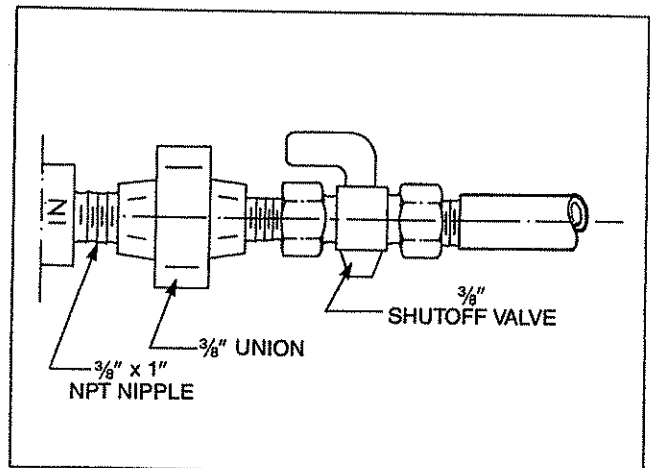
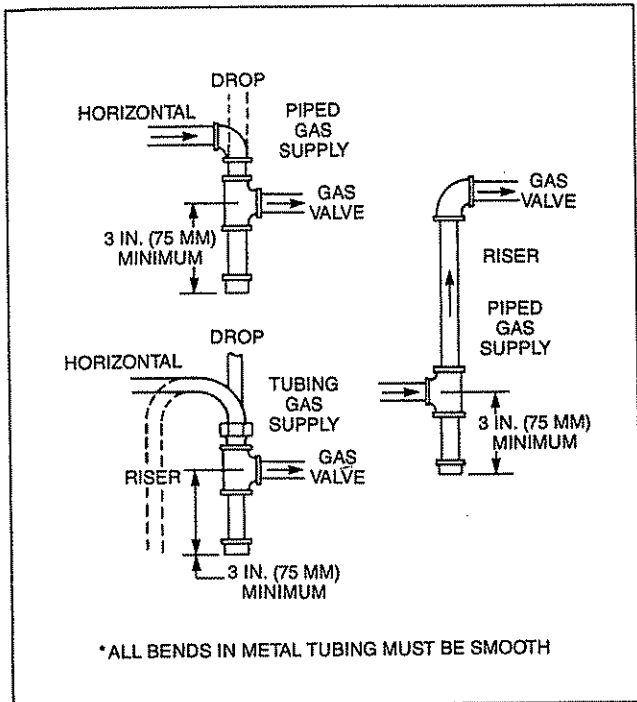

Fig. 5A. Inside fireplace piping.
Fig. 6. Sediment trap installation.
Step 4. Connect a $\frac{3}{8}$ " (for pipe runs longer than 30 feet, use $\frac{1}{2}$ " line) N.P.T. black iron gas line (Do Not Use Cast Iron Pipe) $1\frac{3}{4}$ " above the floor surface (if fireplace will be resting on the floor) and $6\frac{3}{16}$ " behind the face of the fireplace. If the pipe is going to be connected on the left side of the fireplace, route the pipe above the floor surface and behind the face of the fireplace. Connect the pipe to the fireplace piping. See Fig. 5A for suggested piping inside the fireplace. Use two (2) wrenches: one (1) to hold the gas shutoff valve and the second to attach the gas pipe. Always install the sediment trap. Refer to Fig. 6. for possible configurations.